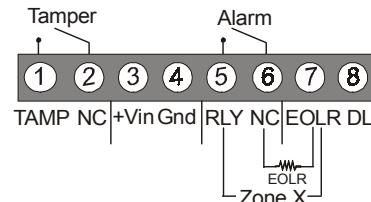

Figure 1: Terminal Block
7. Connect the wires to the terminal block (as shown in figure 1).